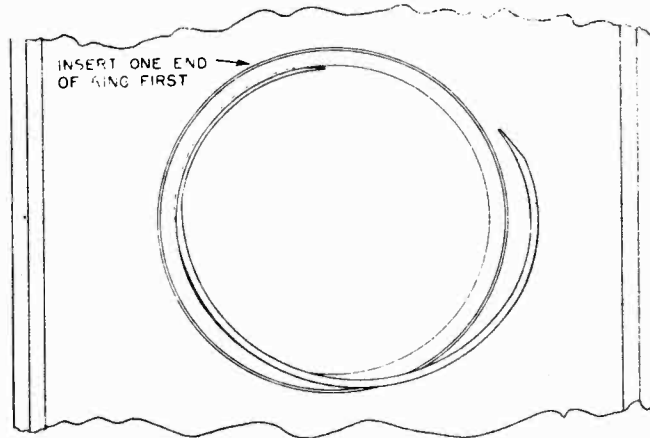

FIG. 4
9. Replace the glass in the cabinet front panel. Hold it centered in the escutcheon with one hand, insert one end of the split ring in place as shown in Fig. 4 and continue pressing the remainder of the ring into place until it is completely seated. It may be helpful to tip the cabinet back against the wall to prevent the possibility of the glass falling out during the operation.